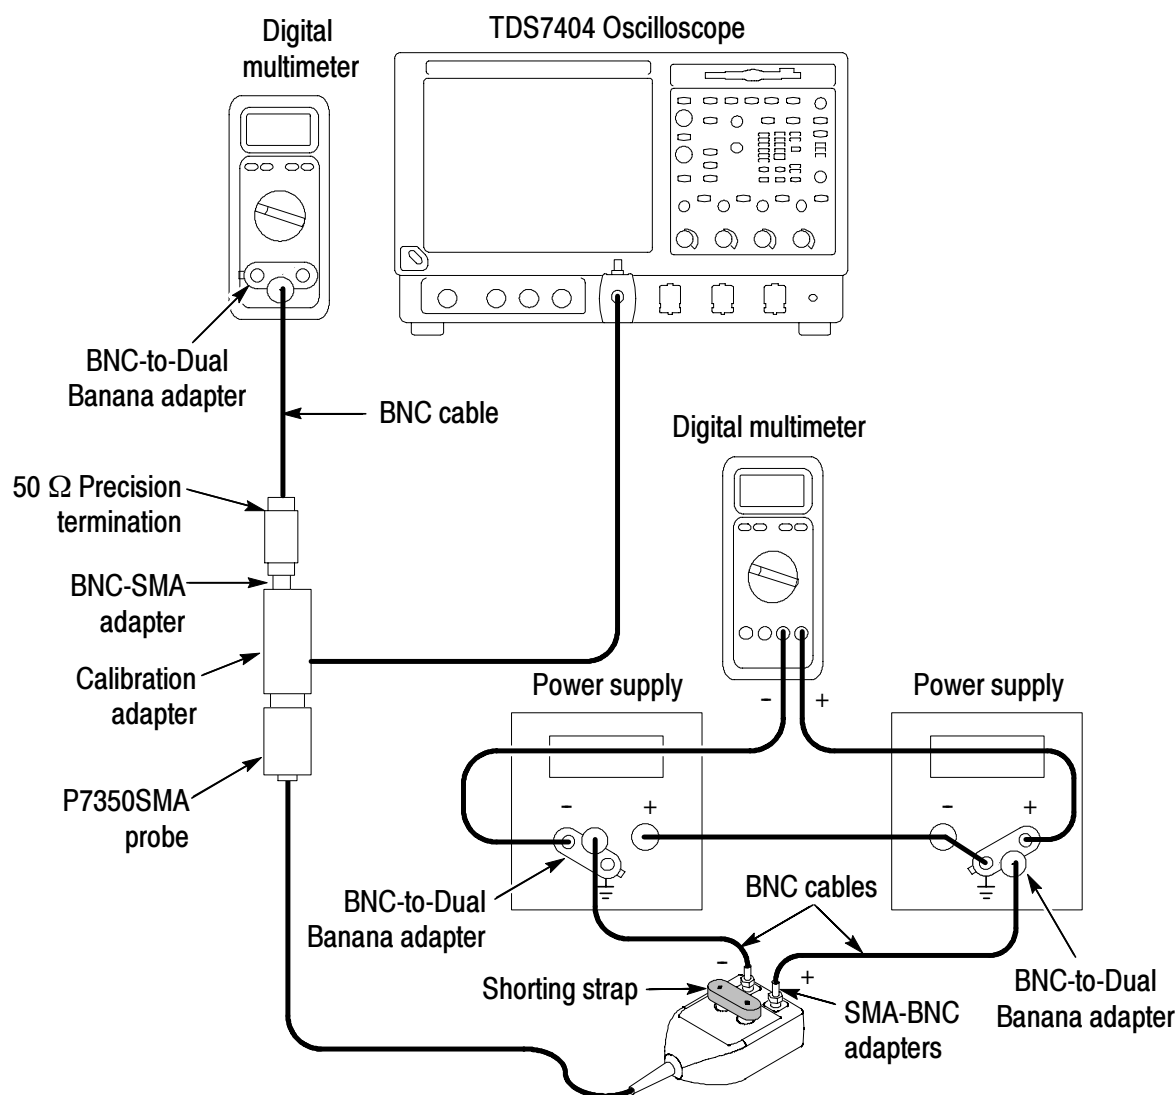

Figure 29: DC Gain Accuracy setup
1. Connect the probe to the power supplies as shown in Figure 29. Make sure the ground tabs on the BNC-to-dual banana plug adapters are connected to the ground connections on the power supplies. Monitor the source voltage with one of the DMMs.